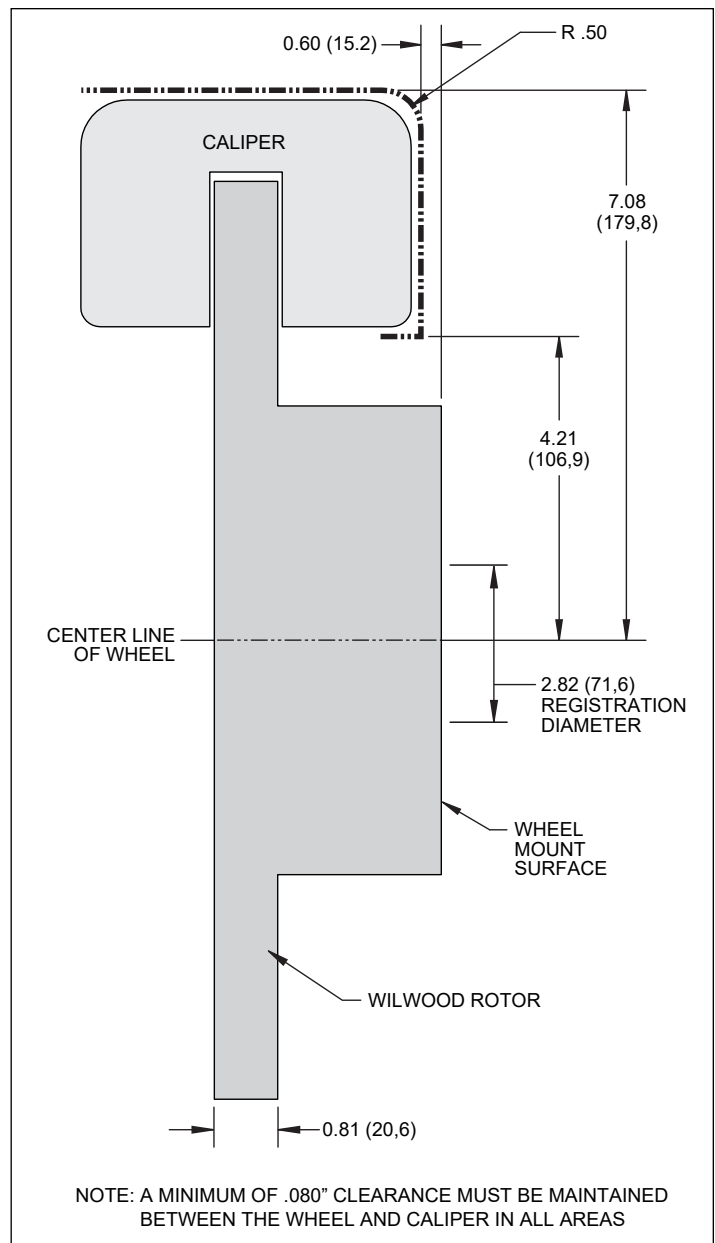

Figure 2. Wheel Clearance Diagram
- Review the wheel clearance diagram (Figure 2, page 4) to verify there is adequate clearance with the wheels you will be using with the installation.
- Verify your wheel clearance using Figure 2.